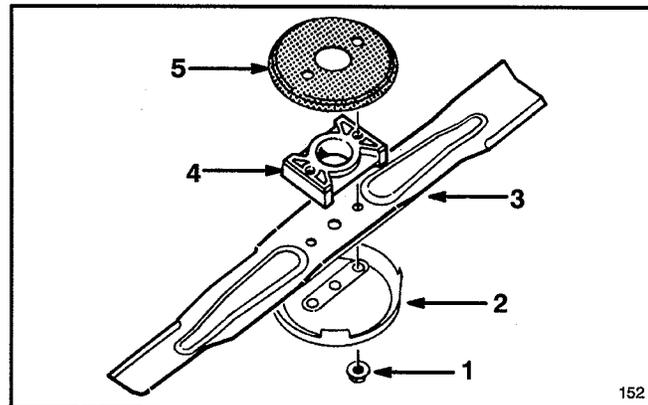

Figure 25
5. **REMOVING BLADE**—Grasp end of blade using a rag or thickly padded glove. Remove blade nuts, anti-scalp cup, blade, blade spacer and rotating screen (Fig. 25).